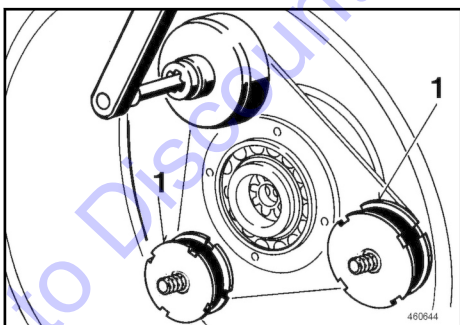

Fig. 248
6. Tighten rubber buffer 1 ↪ Fig. 248 with a matching rubber buffer mounting bell.